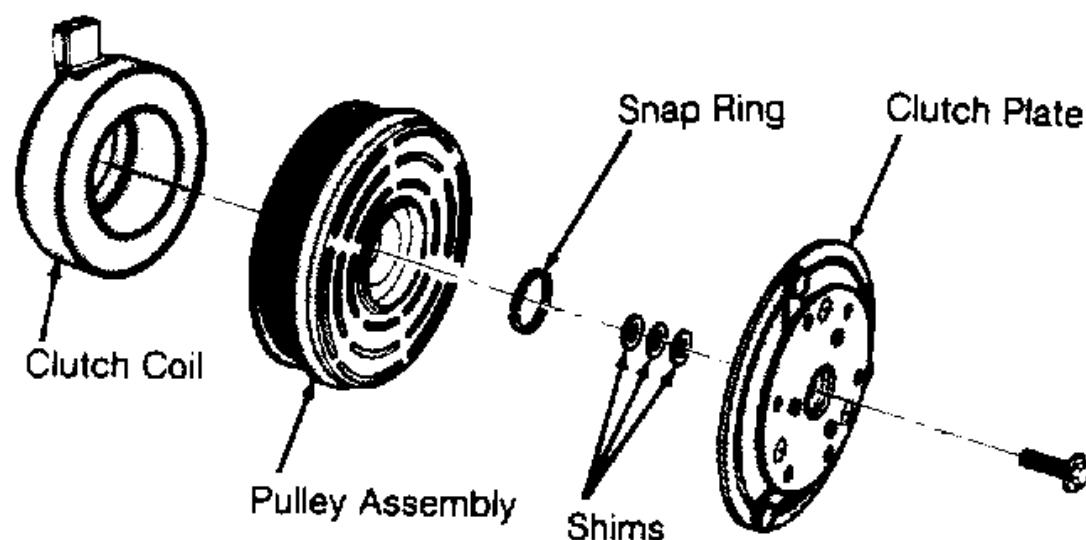

Fig. 2: View of Ford FX-15 10-Cyl Compressor Clutch Assembly
1. Discharge system using approved refrigerant recovery/recycling equipment. Remove compressor. Using Spanner (T70P-4067-A), remove clutch plate retaining bolt and discard. Using an 8-mm bolt threaded into clutch plate, remove clutch plate and shims. See Fig. 2.
1. Discharge system using approved refrigerant recovery/recycling equipment and remove compressor. Using Spanner (T70P-4067-A), remove clutch plate retaining bolt and discard. Using an 8-mm bolt threaded into clutch plate, remove clutch plate and shims. See Fig. 2.